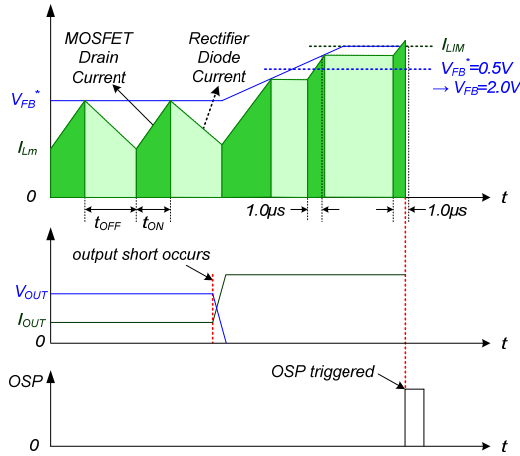

Figure 22. Output-Short Protection
4.3. Output-Short Protection (OSP): If the output is shorted, steep current with extremely high di/dt can flow through the SenseFET during the minimum turn-on time. Such a steep current brings high-voltage stress on the drain of the SenseFET when turned off. To protect the device from this abnormal condition, OSP is included. It is comprised of detecting V_{FB} and SenseFET turn-on time. When the V_{FB} is higher than 2.0V and the SenseFET turn-on time is lower than 1.0 μ s, the FSD176MRT recognizes this condition as an abnormal error and shuts down PWM switching until V_{CC} reaches V_{START} again. An abnormal condition output short is shown in Figure 22.